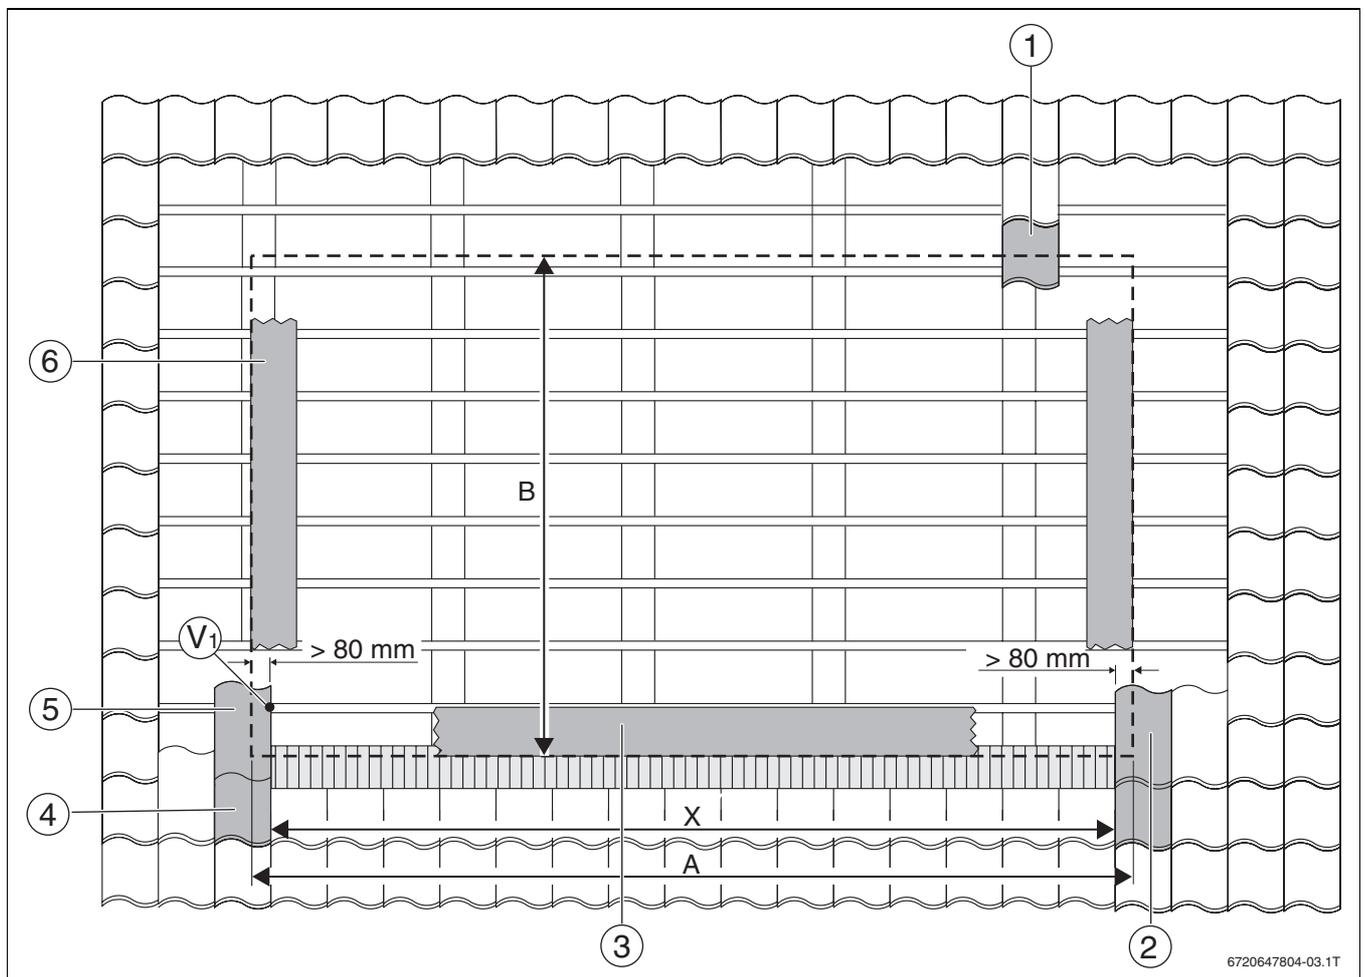

Fig. 24 Collector array layout
- ▶ Transfer dimension X to the roof and determine the left hand row of roof tiles (→ Fig. 24, [5]).
- ▶ Determine the right hand row of roof tiles (→ Fig. 24, [2]) that may need to be trimmed when re-covering the roof later.
- ▶ Determine the bottom row of roof tiles (→ Fig. 24, [4]) giving due consideration to dimension B.
- ▶ Determine the top row of roof tiles (→ Fig. 24, [1]) that may need to be trimmed when re-covering the roof later (Observe minimum clearances to ridge tile).
- ▶ When removing the row of roof tiles [2] from the left hand side of the collector array, transfer the left hand reference point V1 from dimension X (→ Fig. 24) to the batten below the cover [1]. This point is required as reference point V1 for the installation dimensions.